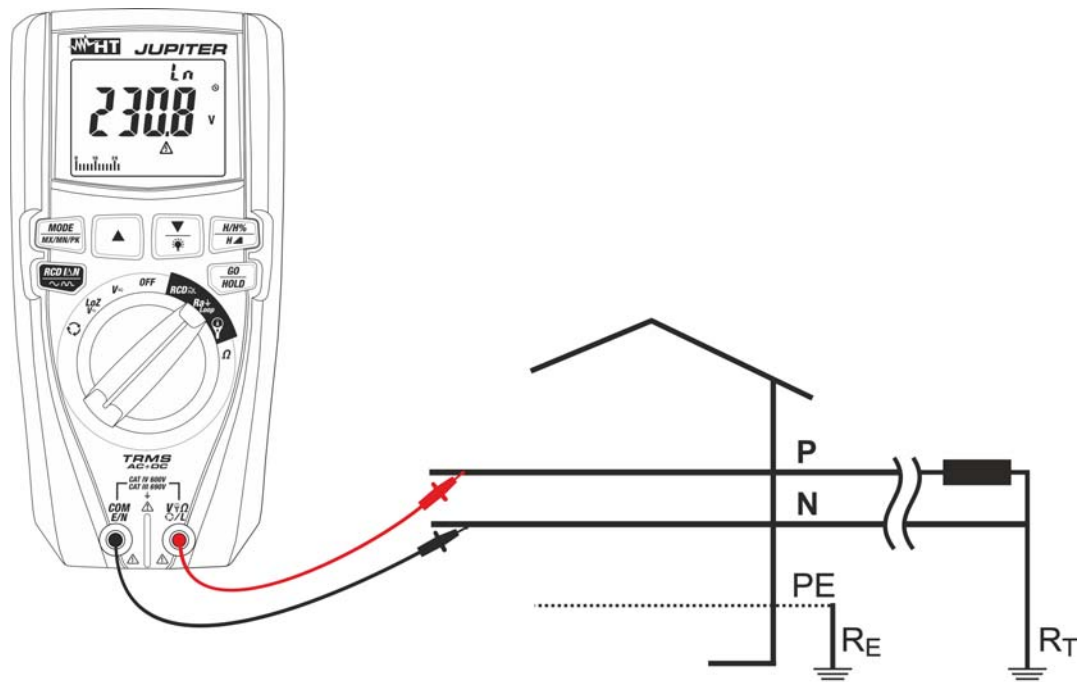

Fig. 26: Use of the instrument for measuring Loop L-N impedance with leads
8. **For Loop L-N measurements**, in case measuring leads are used, insert the red conductor into input terminal $V_{\Omega} \text{ L}$ and the black conductor into input terminal **COM/E/N** and connect the instrument to the system to be tested (see Fig. 26). The value of phase-to-neutral voltage is shown on the display